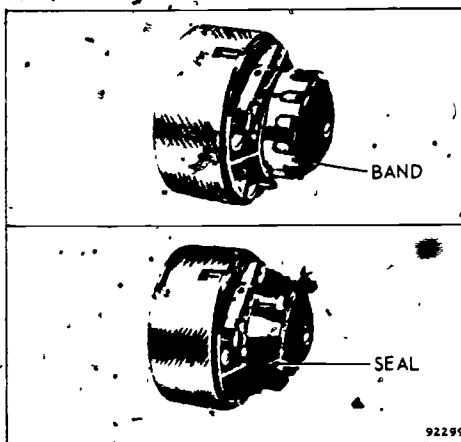

FIGURE 9
1. Remove rubber oil seal, band, screw, and screen from front of oil pump (Figure 9)